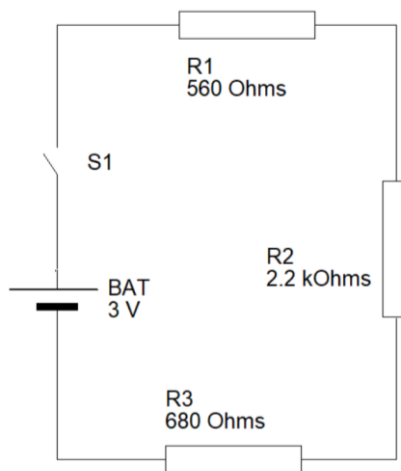

Figure 2: Circuit 1
- a) Find the total resistance of the circuit shown in Figure 2. Show all your working.